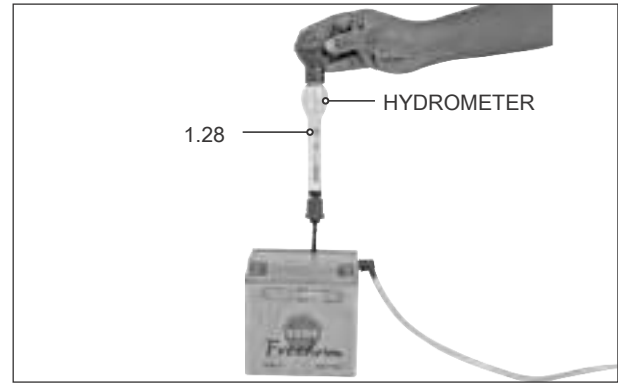

Fig. 5.74
- | Battery can be considered to be fully charged when three consecutive specific gravity (SG) readings taken at intervals of 30 minutes each, indicating a reading of 1.28. (Fig. 5.74)